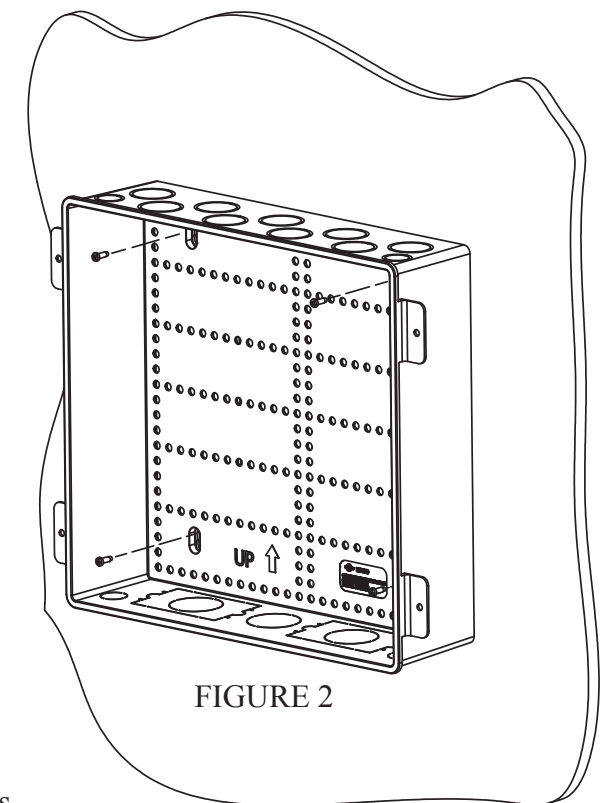

FIGURE 2
3. Secure the base housing to the plywood with the included wood screws as shown in Figure 2.